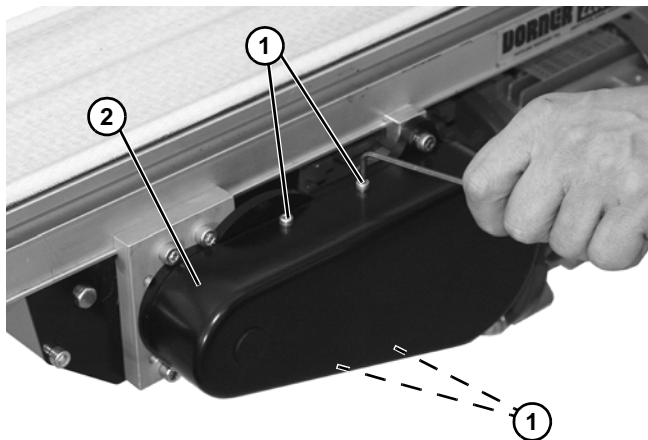

Figure 14
1. Remove four (4) screws (Figure 14, item 1) and remove cover (Figure 14, item 2).
4. Install cover (Figure 14, item 2) with four (4) screws (Figure 14, item 1). Tighten screws to 35 in-lb (4 Nm).
6. Install cover (Figure 14, item 1) with four (4) screws (Figure 14, item 2). Tighten screws to 35 in-lb (4 Nm).
1. Remove four (4) screws (Figure 14, item 2) and remove cover (Figure 14, item 1).